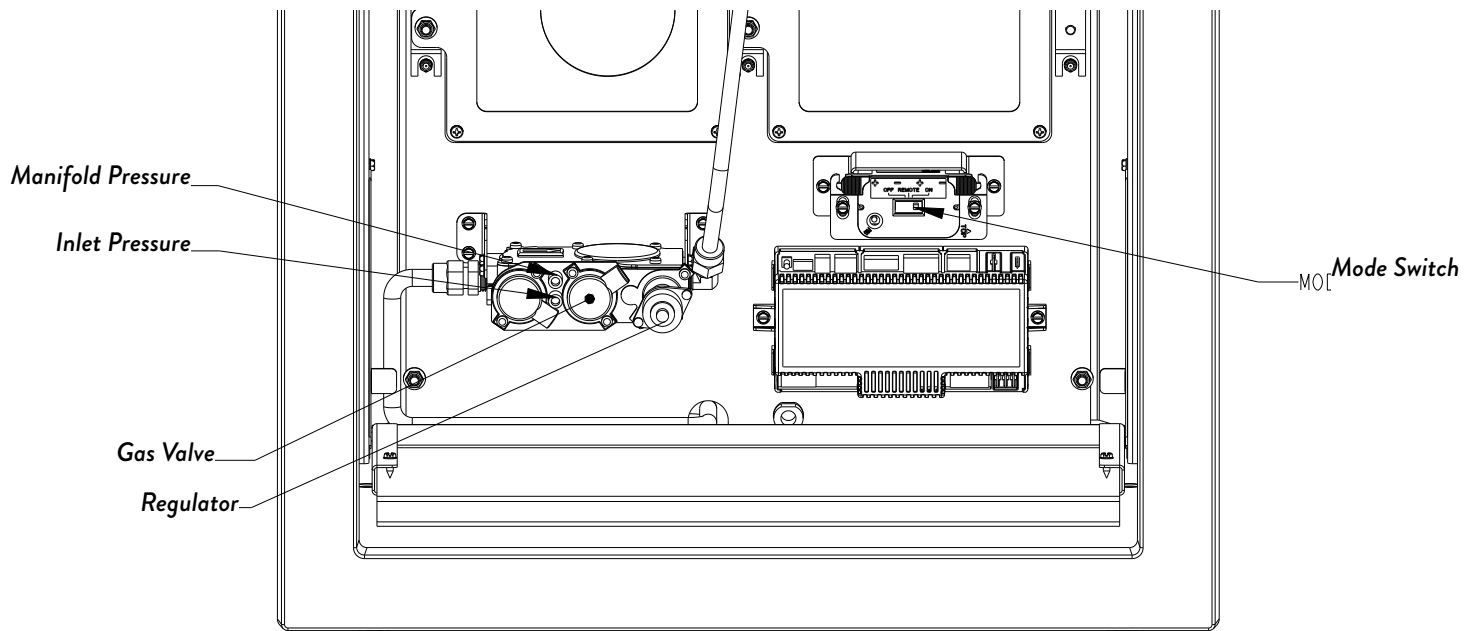

Figure 14.1. GF 520 DV IPI Controls Compartment.
1. Set the Mode Switch to **OFF**. See fig. 14.1.